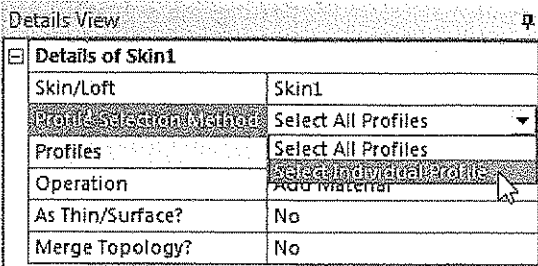

Figure 5-84 Selecting the **Select Individual Profile** option from the drop-down list
- 2. The **Select All Profiles** option is selected by default in the **Profile Selection Method** drop-down list in the **Details View** window. Select the **Select Individual Profile** option from this list, as shown in Figure 5-84; **Profiles** is attached below the **Details of Skin1** node in the **Details View** window.